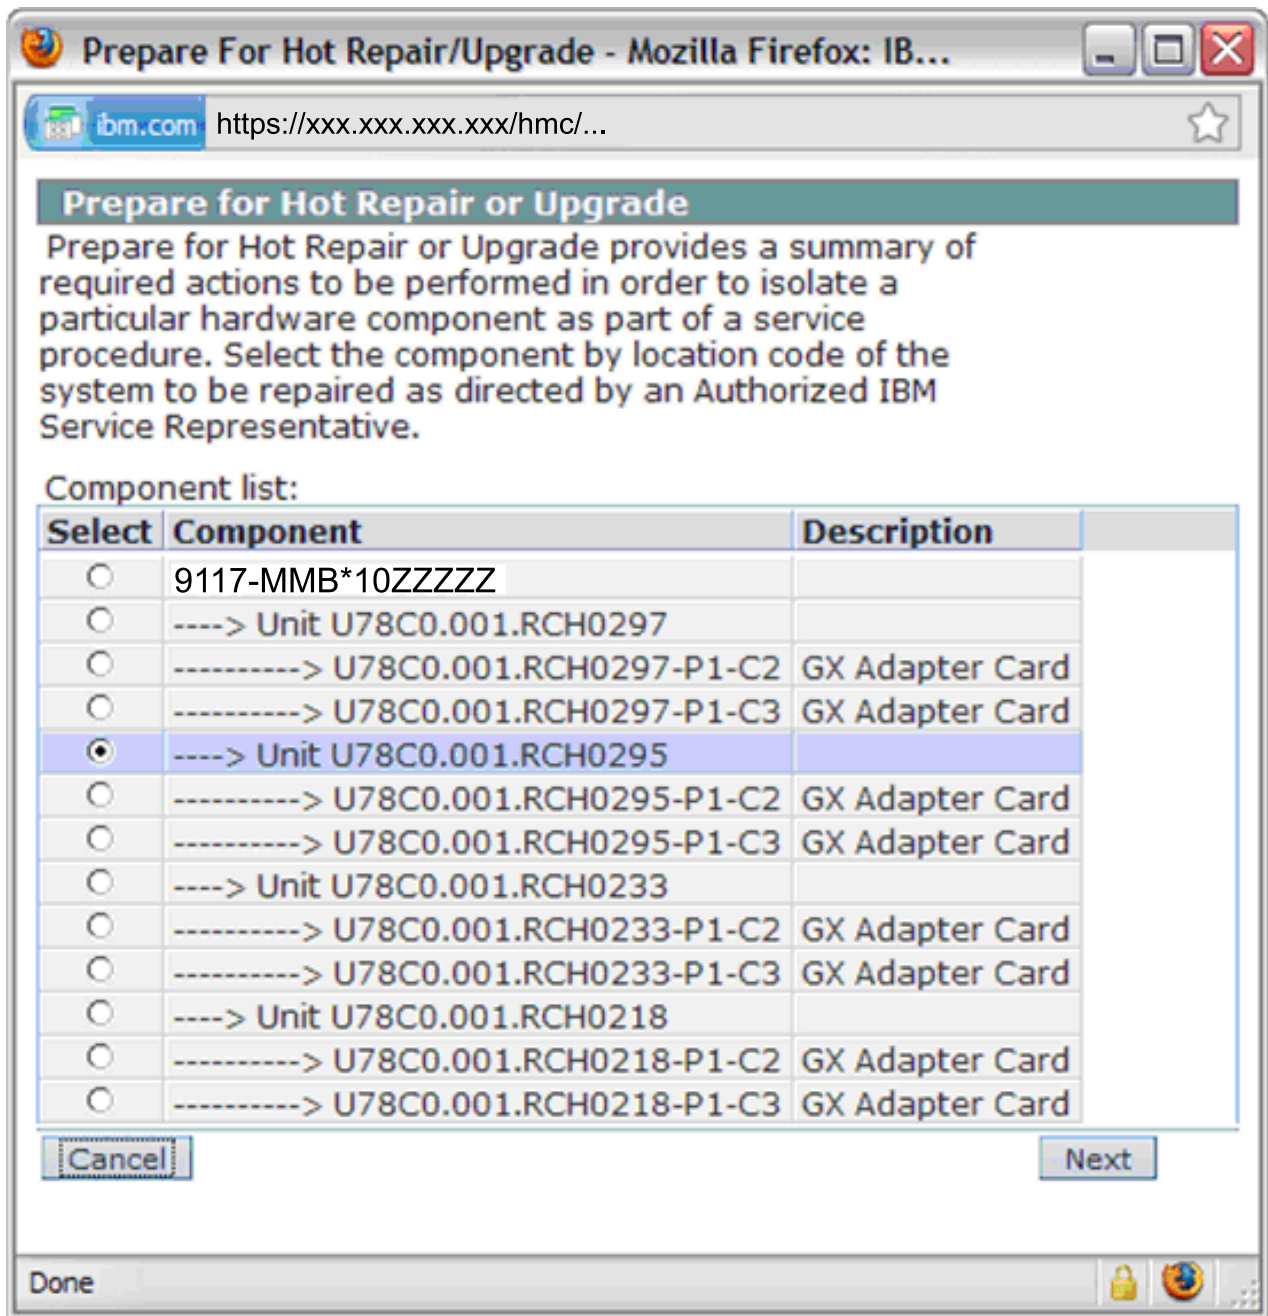

Figure 1. FRU selection within Prepare For Hot Repair or Upgrade Utility
4. Select the base location code that contains the field-replaceable unit (FRU) to be serviced or the GX adapter card to be replaced as shown in Figure 1 on page 15.